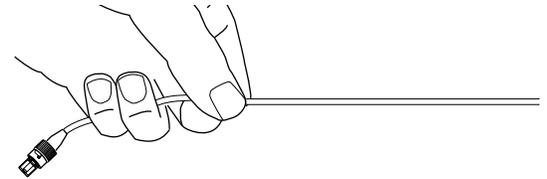

Figure 7
5.12 When placing a connectorized Zipcord or single fiber cable, take care to protect the fiber optic connectors. *Never use a connector to pull a cable into place – any tensile load on the jumper or pigtail must be isolated to the cable (Figure 7).*